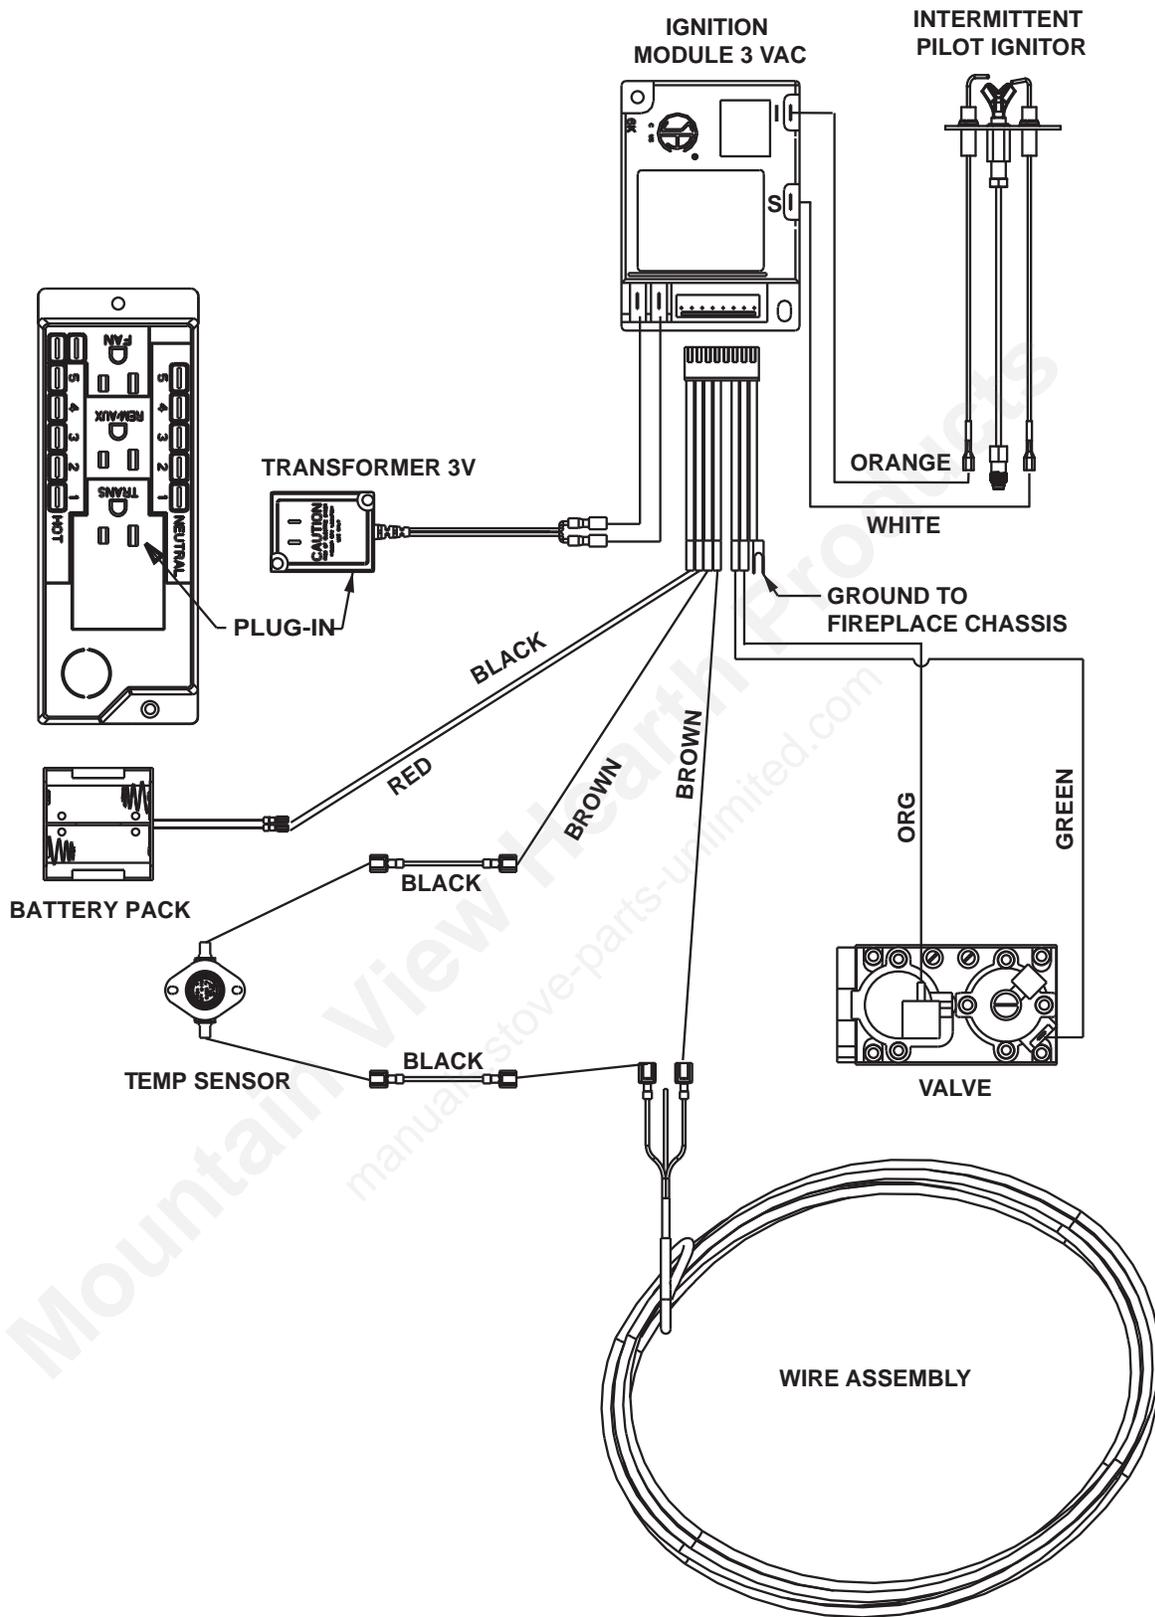

Figure 12.1 Intellifire Ignition Wiring Diagram with Wall Switch
- Refer to Figures 12.1 and 12.2 Intellifire Pilot Ignition (IPI) Wiring Diagram.